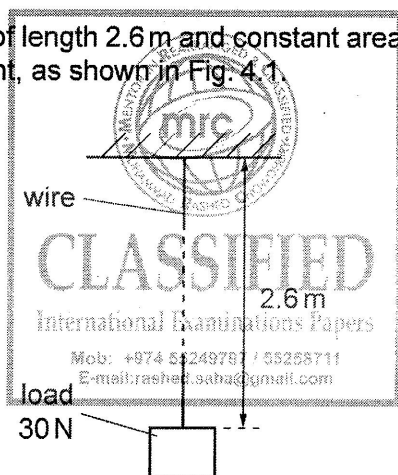

Fig. 4.1
- (b) One end of a metal wire of length 2.6 m and constant area of cross-section  $3.8 \times 10^{-7} \text{ m}^2$  is attached to a fixed point, as shown in Fig. 4.1.